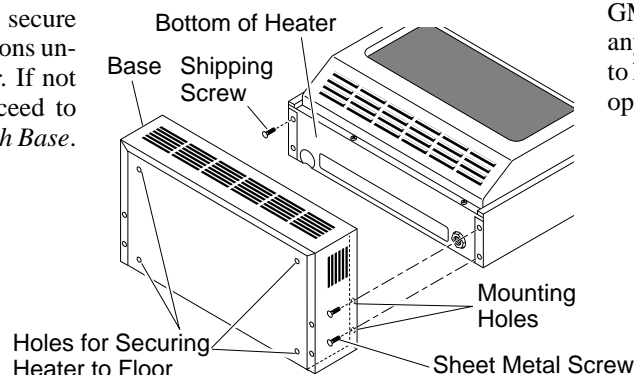

Figure 18 - Attaching Heater to Hearth Base
1. Position hearth base in desired location. Mark holes for drilling (See Figure 18, below). Remove hearth base.
3. Line up mounting holes on top of hearth base with holes in bottom of heater (see Figure 18).
4. Using a Phillips screwdriver, secure hearth base to heater with four sheet metal screws (see Figure 18).